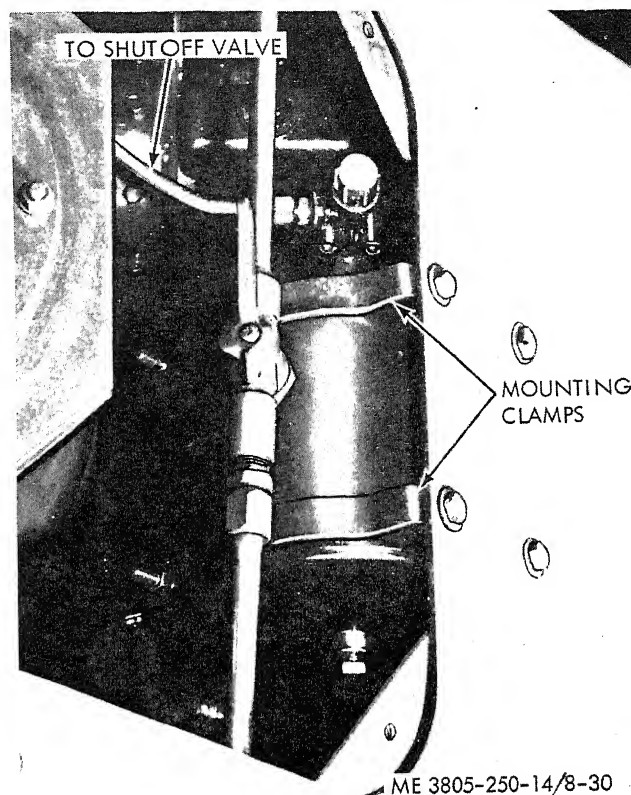

Figure 8-30. Auxiliary reservoir.
**(1) Removal.** Refer to figure 8-30.